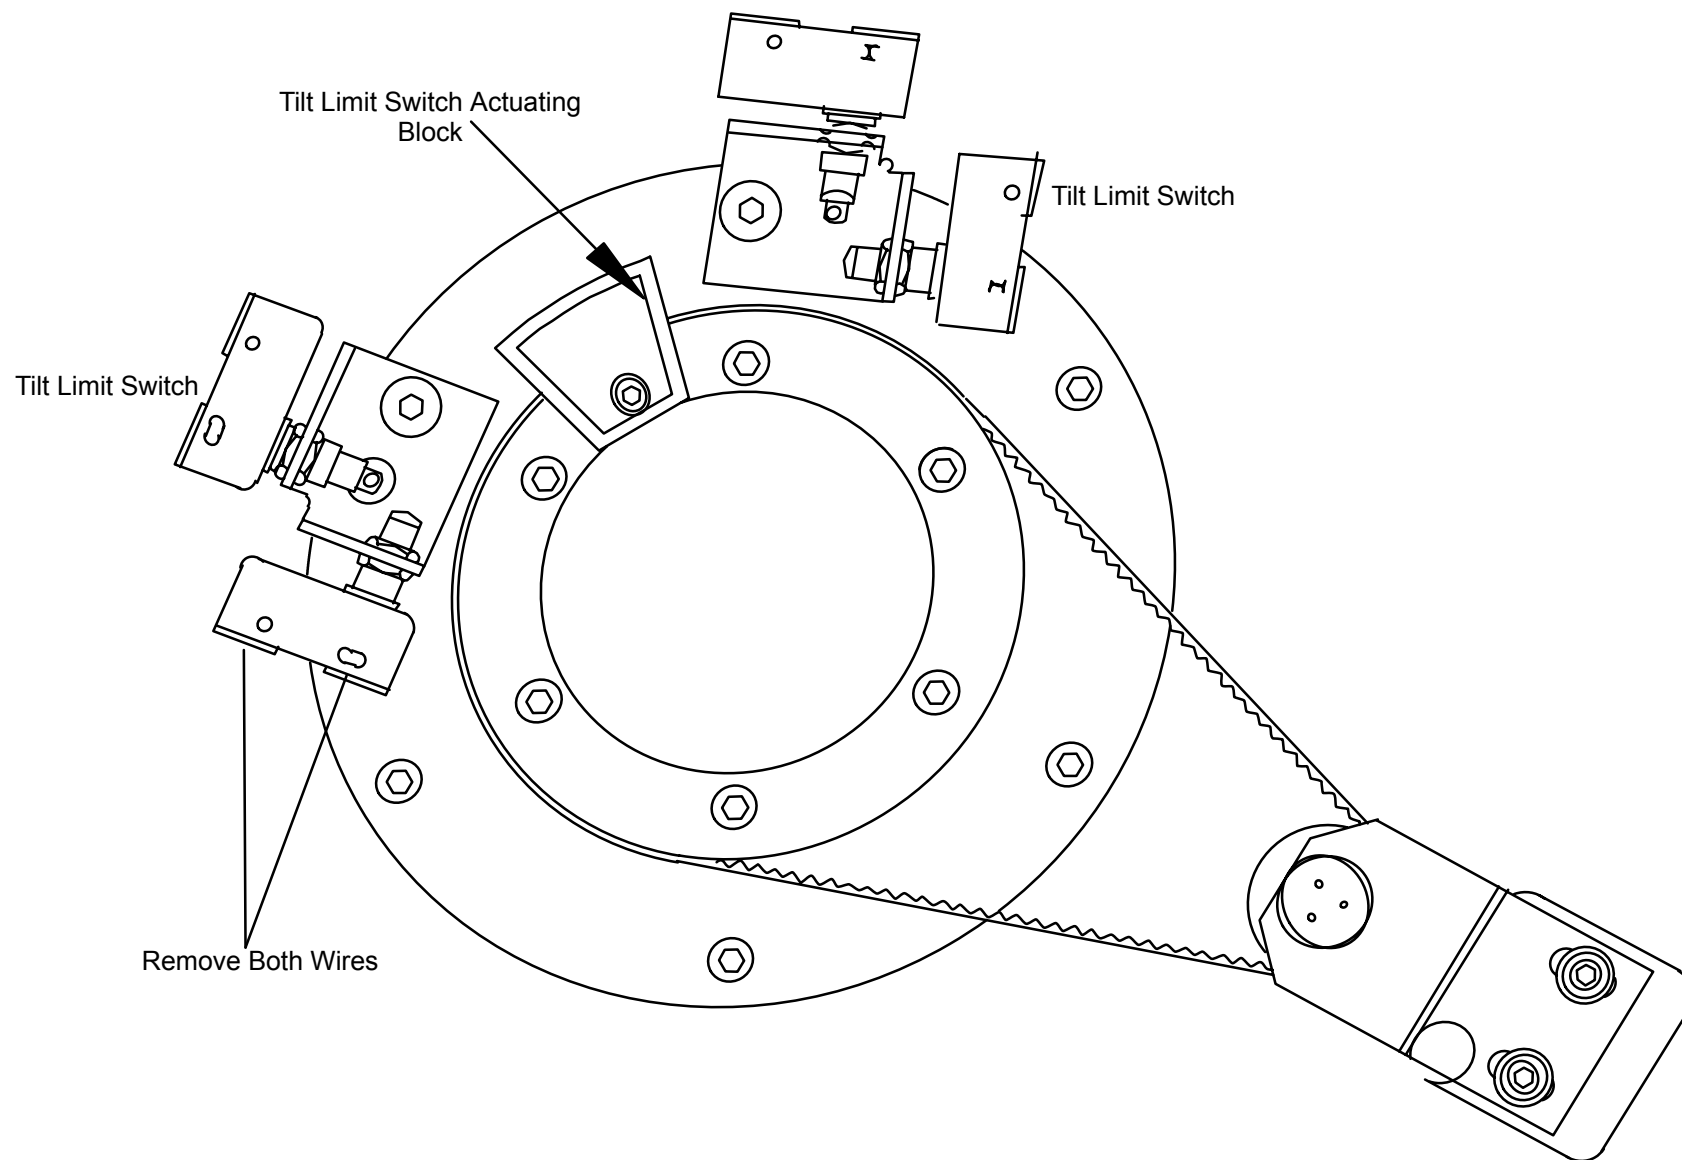

FIGURE 301 Tilt Limit Switches
3. Tag and remove the two wires connected to the switch. See Figure 301.